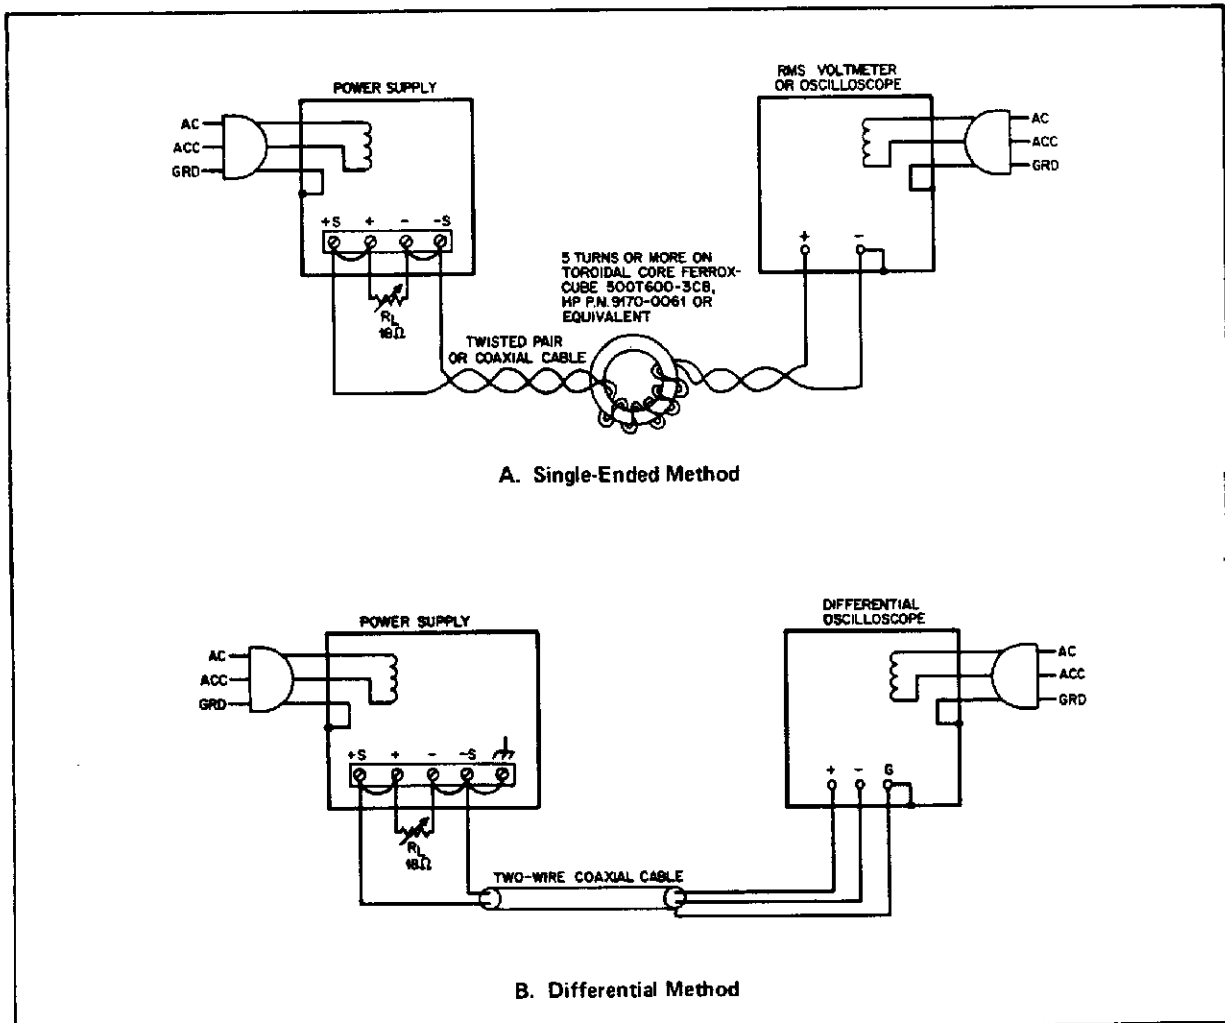

Figure 5-3. Constant-Voltage Ripple Test Setup
- a. Connect one of the test setups shown in Figure 5-3.